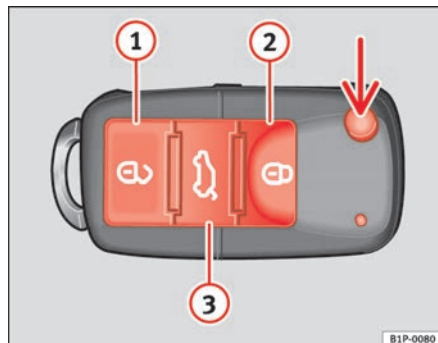

Fig. 44 Assignment of buttons on the remote control key
Using the button $\Rightarrow$ fig. 44 (arrow) on the control, the key shaft is released.
Unlocking the vehicle $\Rightarrow$ fig. 44 ①.
Locking the vehicle $\Rightarrow$ fig. 44 ②.
Unlocking the tailgate. Press button $\Rightarrow$ fig. 44 ③ until all the indicators on the vehicle flash briefly. When the unlocking button $\Rightarrow$ fig. 44 ③ is pressed, you have 2 minutes to open the door. After this period, the door is locked once more.
To change the locking / unlocking status, press the button  or the button  (1) ⇒ page 78, fig. 44 on the remote control key.